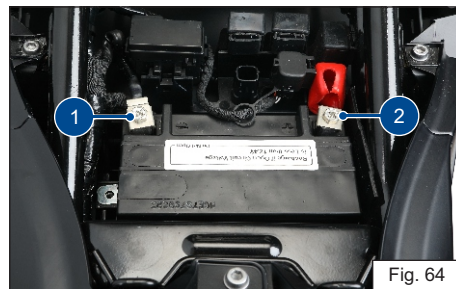

Fig. 64
- ♦ Disconnect the negative terminal (1) first followed by the positive terminal (2) (ref. Fig. 64). Carefully take out the battery.